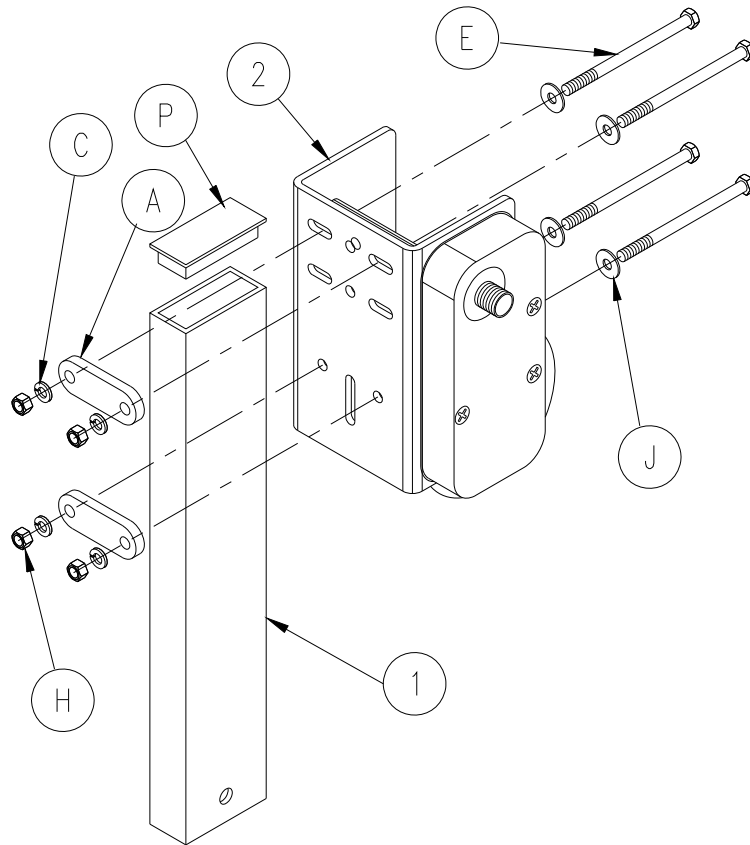

Figure 2-1.
The part reference numbers and letters used in the subassembly drawings of sections 2.3 through 2.9 are the same as those shown in Figure 2-1 and listed in the parts lists of Chapter 4.
1. Refer to figure 2-1. Install the D-L winch onto the tube extension (1). If a canopy is installed on the lift, than mount the D-L winch to the canopy leg. Use 3/8-16 x 5-1/2 hhcs (E), flat washer (J), 2-hole plate (A), 3/8” lock washer (C) and 3/8” hex nut to mount the winch. Place the winch so that the top of the winch is flush to the top of the extension tube (1).